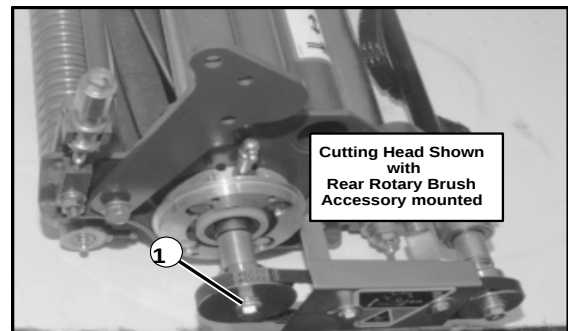

Figure 15
**NEVER** rotate the cutting reel by pushing it with your hands or fingers. Fingers can become caught between the reel and the frame resulting in serious injury. Use a ratchet with a 9/16" socket on the end of the cutting head shaft to rotate the reel during adjustment and testing (See Fig. 15).